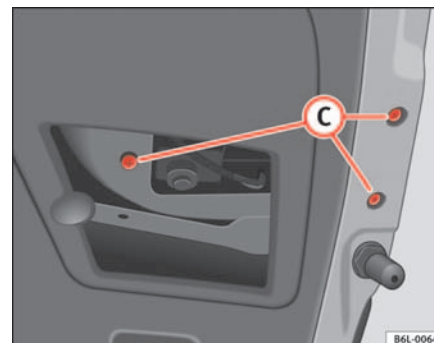

Fig. 162 Rear light on tailgate
- Extract the bolts **(C)** ⇒ page 221, fig. 162 and disconnect the connector.